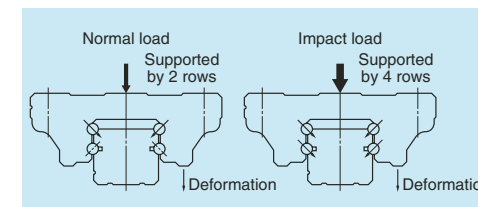

Fig. 5 Shock-resistance
- When a super-high load (impact) is applied, our Gothic arch groove spreads the load to surfaces which usually do not come into contact in the ball type NSK linear guides. This increases impact load resistance (Fig. 5).